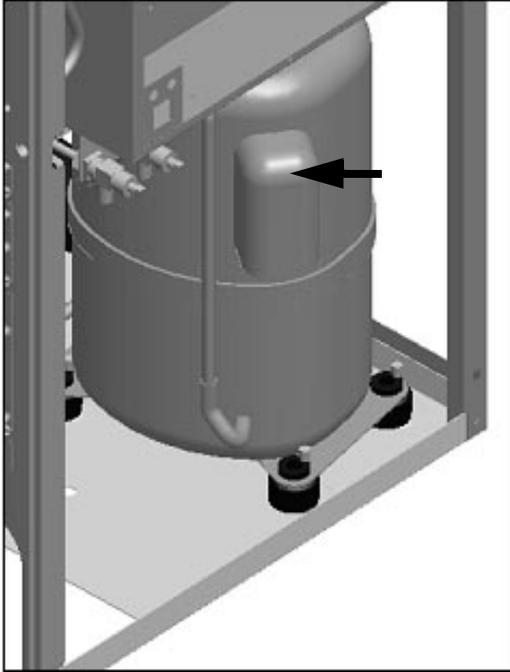
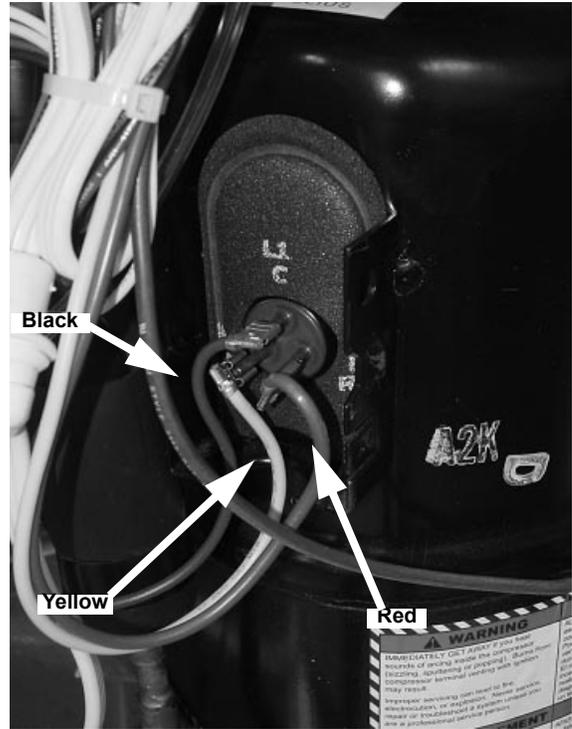

Figure 14.
Figure 15.
10. Remove the junction box cover (Figure 14) and disconnect all electrical leads to the compressor (Figure 15).